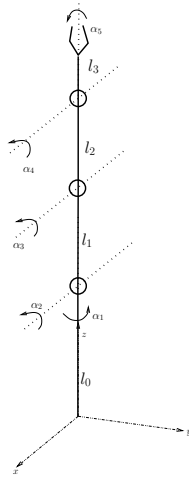

Figure 3: Lynxmotion L6 manipulator.
**Problem 3.** (20 pts) The Lynxmotion L6 is a small manipulator meant to replicate commonly found industrial manipulators in terms of its joint degrees of freedom. Unlike most industrial manipulators, which have six degrees of freedom, this one has only 5 degrees of freedom. A sketch of it is depicted below in Figure 3 with a straight-up reference configuration. Use the product of Lie groups method. You can leave the solution in symbolic form, meaning that it is sufficient to define the individual  $g_i(\alpha_i)$  matrices and the final transformation to the end-effector. I do want, however, for you to give me the translation part  $d_e(\alpha)$ . The example from class should be a good guide as to how to proceed. Suppose for now that the link lengths are:  $l_0 = 4.35$ ,  $l_1 = 4.72$ ,  $l_2 = 4.72$ ,  $l_3 = 5.12$ , and  $l_4 = 0.79$  given in inches. Whereas  $l_3$  go to roughly the hand area of the end-effector, the extra length  $l_4$  goes a bit further to what would be the fingertips of the gripper (the length is not depicted in the figure). Its inclusion in the forward kinematics is optional.